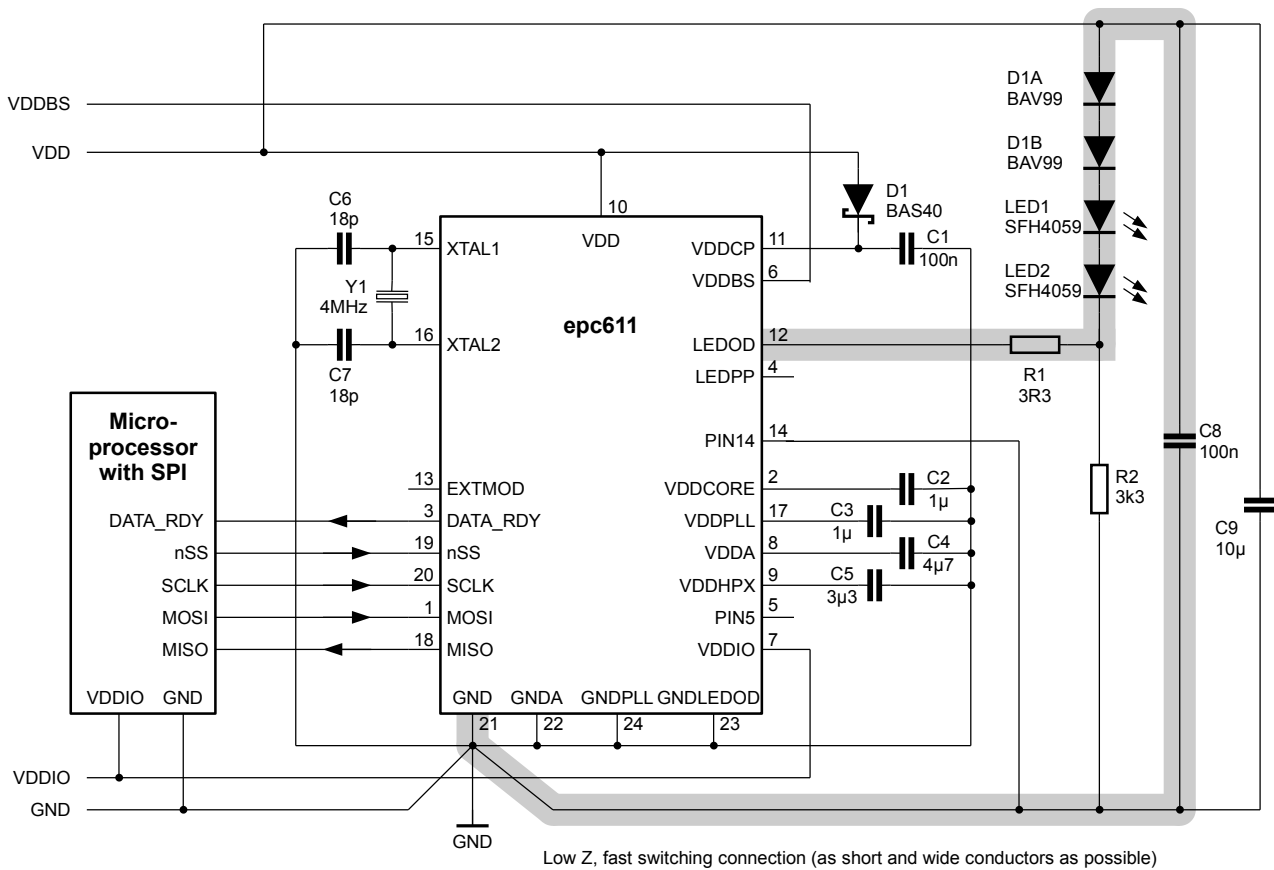

Figure 13: Typical application diagram
14. Pins not listed here or explained later have to be connected according to Figure 13.
1. XTAL1 and XTAL2 are the input/output pins of the internal oscillator. They can be used either with a 4.0 MHz crystal or resonator. The capacitor values C6 and C7 should follow the recommendation in the datasheet of the crystal or resonator (refer to Figure 13).